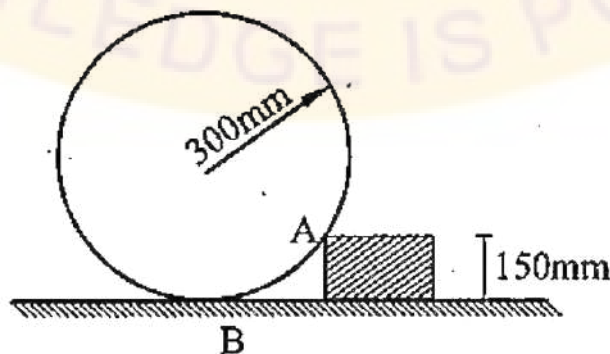

Figure 2
12. A roller of radius 300mm and weight 1000N is to be pulled over a rectangular block of height 150mm as shown in Figure 2. Determine